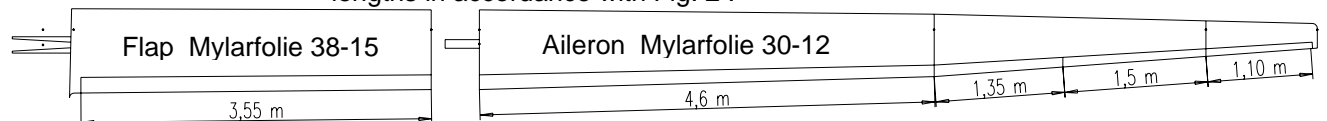

FIG. 2 Lower Wing Surface
- 4.4 Now cut the plastic fairing strip (3) for flaps [Mylar foil, 38-15 mm wide] and the plastic fairing strip (4) for ailerons [Mylar foil, 30-12 mm wide] into appropriate lengths in accordance with Fig. 2 .